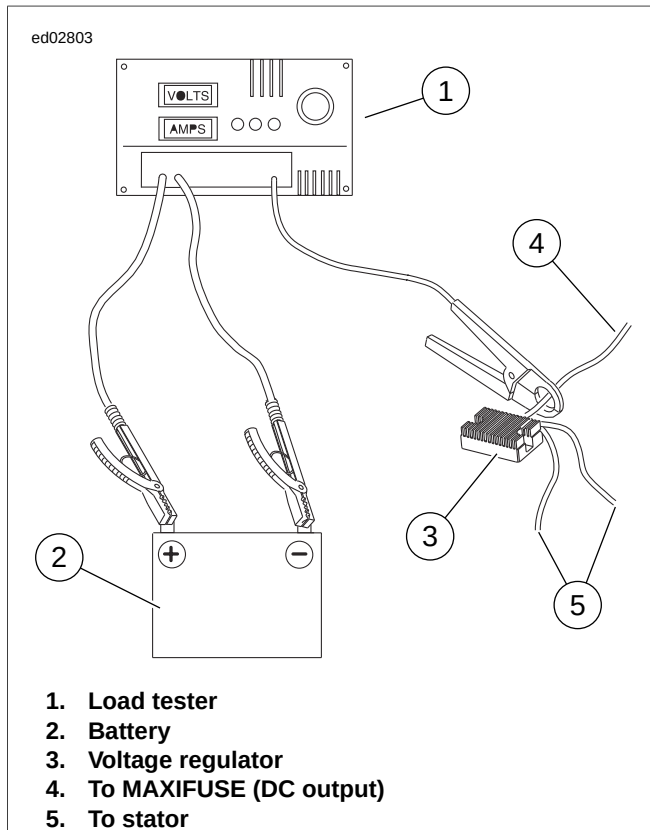

Figure 1-24. Current and Voltage Output Test
1. See Figure 1-24. Connect load tester.
4. See Figure 1-24. After removing the load, read the load tester voltage meter.